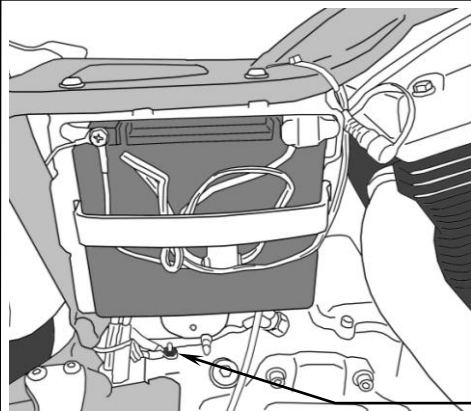

FIGURE 5
8. Route the longest Powrpro oxygen sensor harness from rear of engine area to below battery and next to starter. Remove the nut securing ground wire and pull off ground wire to allow connectors to pass through between rear of transmission case and harness sheath in front of swingarm, see Figure 5. Reinstall nut.